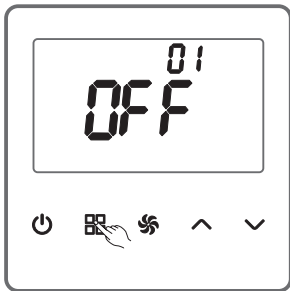

Figure 7
As shown in the Figure 7 (the function has been disabled), on the parameter setting page, press  (MODE) to switch the option number to 01.  (UP) or  (DOWN) is provided to allow a switch of ON and OFF (—enable or disable the function).